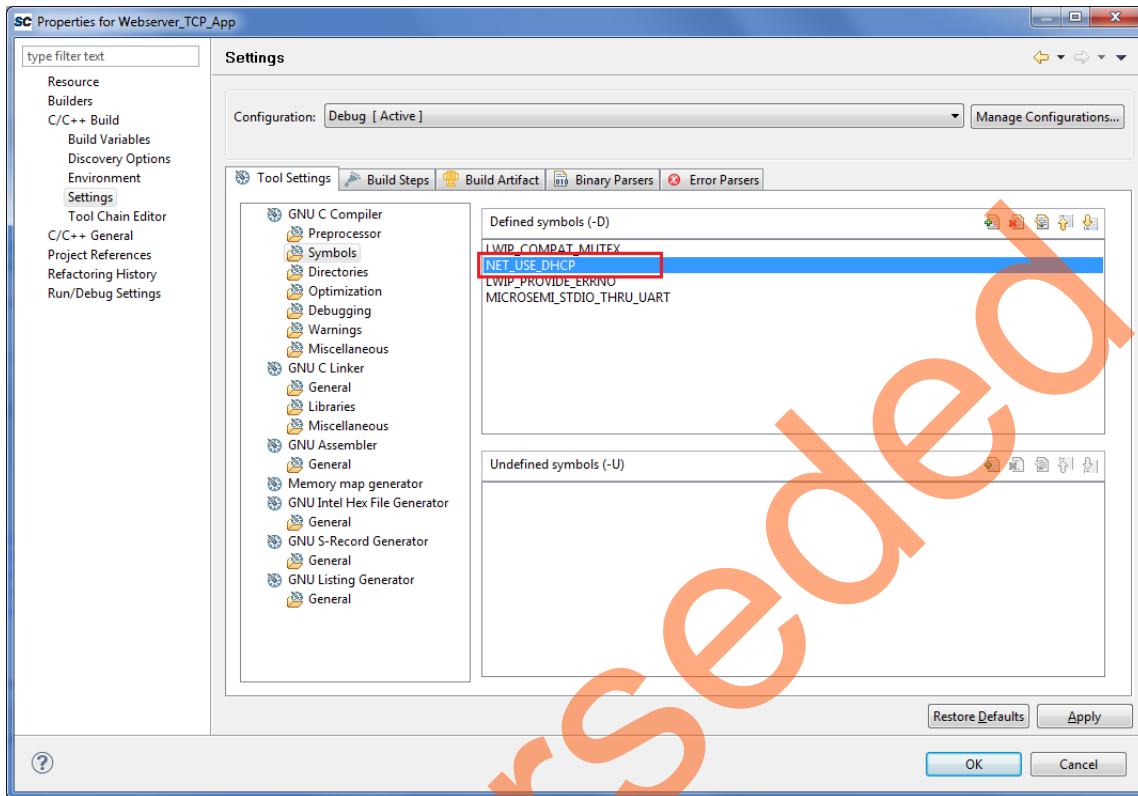

Figure 32 • Webserver_TCP_App Properties Window
2. Remove the symbol **NET_USE_DHCP** in **Tool Settings** of the **Properties for Webserver_TCP_App** window, as shown in Figure 32.